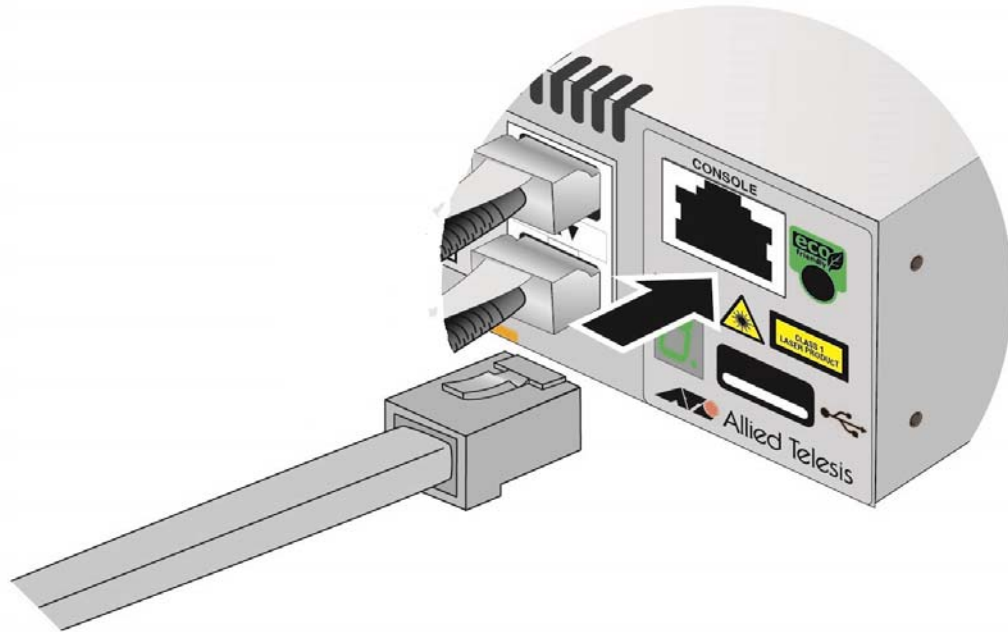

Figure 46. Connecting the Management Cable to the Console Port
1. Connect the RJ-45 connector on the management cable to the Console port on the front panel of the switch, as shown in Figure 46.